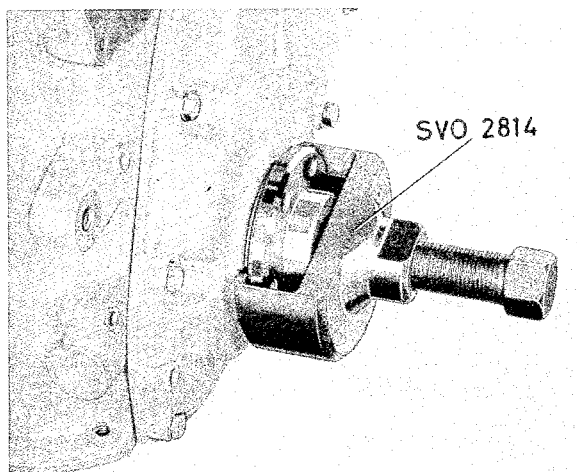

Fig. 2-27. Removing polygon hub
3. Remove the center bolt and take off the polygon hub with puller 2814, see Fig. 2-27. (First check to see whether it is possible to pull off the polygon hub by hand.)